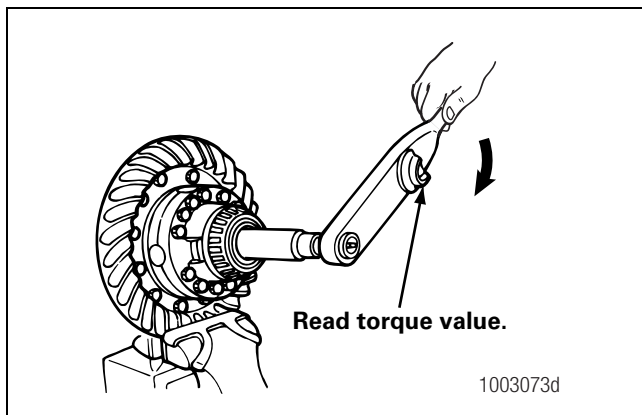

Figure 5.49
4. Place a torque wrench onto the nut of the tool and rotate the differential gears. As the differential gears rotate, read the value indicated on the torque wrench. Figure 5.49.